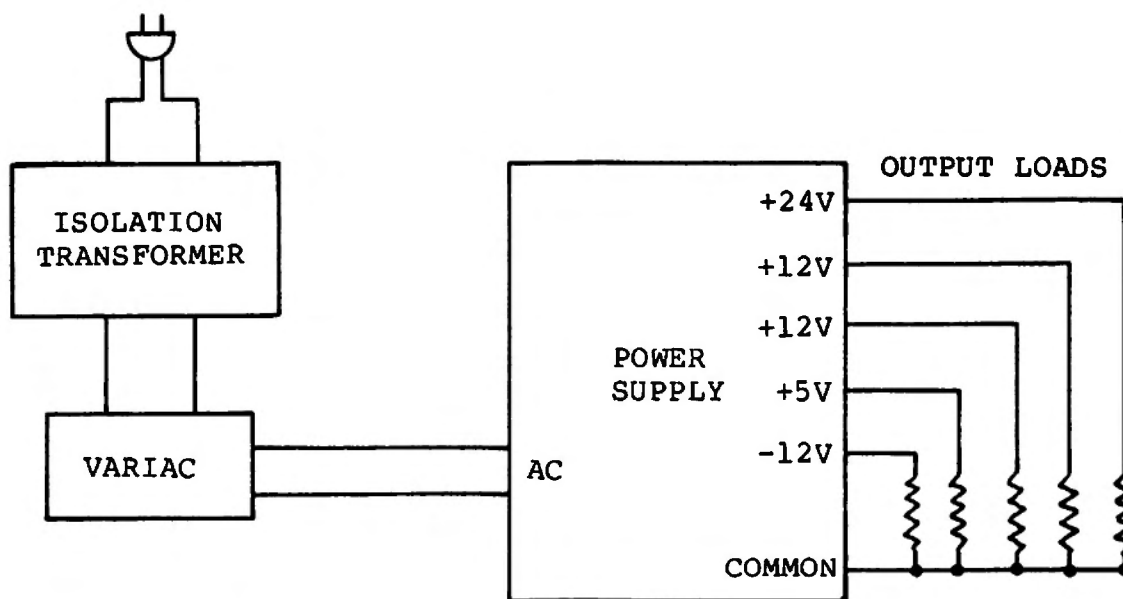

Figure 7-11. Test Layout, Power Supply
1. Set up as shown in Figure 7-11. You will want to monitor the input voltage and the output voltage of the regulated bus, which is the +5 V output, with DVMs. Also monitor the +5 V output with the oscilloscope using 50 mV/div sensitivity. The DVM monitoring the +5 V output can also be used to check the other outputs. See Paragraph 7.3.4 for test points within the power supply.